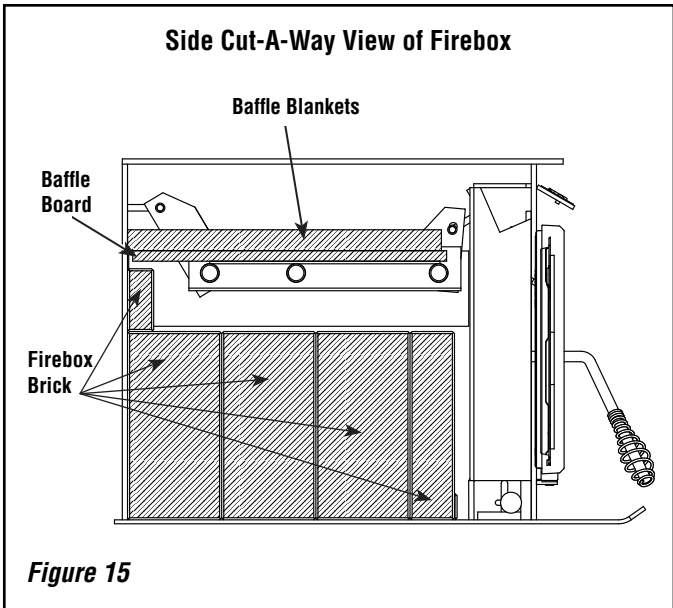

Figure 15
2. Next, you will install the baffle boards. All 4 baffle boards included are the same size. You will start by installing the boards in the center part of the unit on top of the secondary tubes to each side of the baffle support with the 15" side of the baffle board going from the front to back of the unit. Once you have the first two boards installed slide the board to the left side of the baffle support all the way to the left and rear of the unit. You will slide the board to the right side of the secondary support to the right and rear of the unit. Next you will install the two remaining boards where you originally installed the first two boards on each side of the baffle support and pushed against the rear of the unit. The stainless steel support hanger should be centered left to right between the sets of baffle boards and placed as shown in **Figure 15** on **Page 16**.